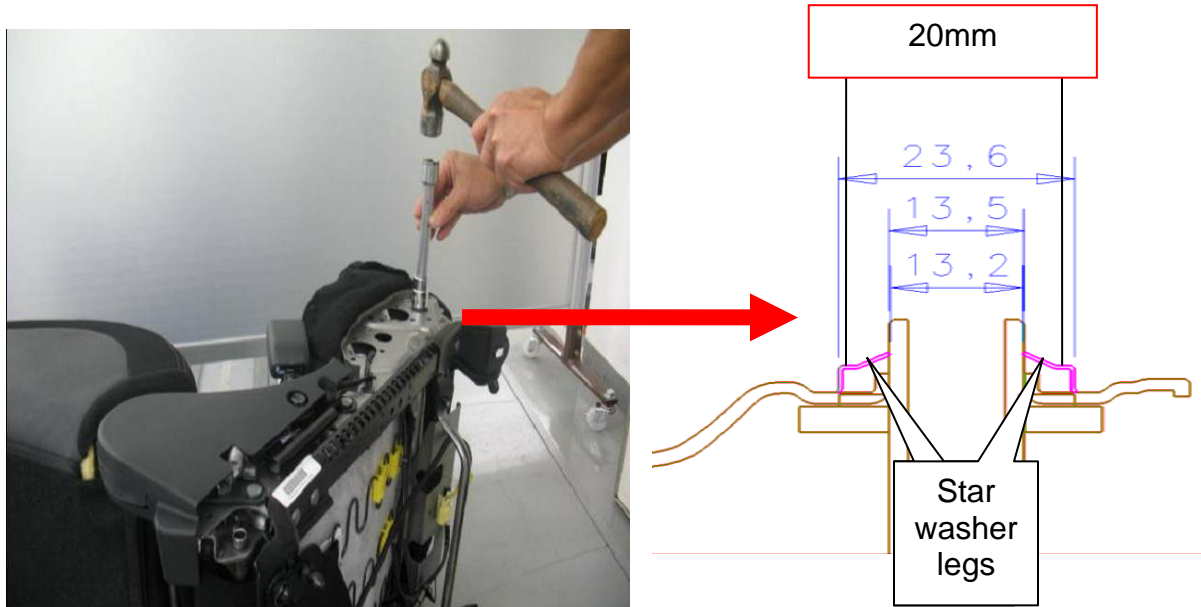

Figure 4
- 4a. Locate a pipe, socket, or similar tool with an internal dimension (ID) between 20 to 21mm that can be used as a drift. Ensure size is such that it does not interfere with “legs” of star washer (see Figure 4).